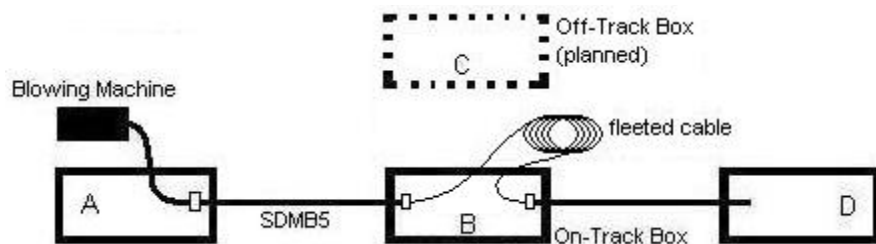

Figure 15 – Installation of cable to On-Track Box
4. Continue to install the cable to the on-track box (see Figure 15), fleeting the cable until the required length is achieved for: